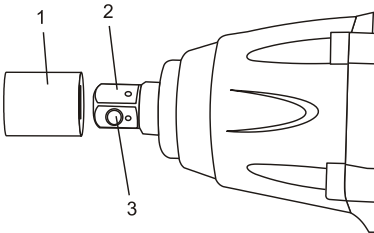

Fig. 3
To install a socket, press the square portion of the socket (1) onto the square drive (2) of the impact wrench (Fig. 3).
1. Install the correct size of impact socket on the impact wrench (Fig. 3).